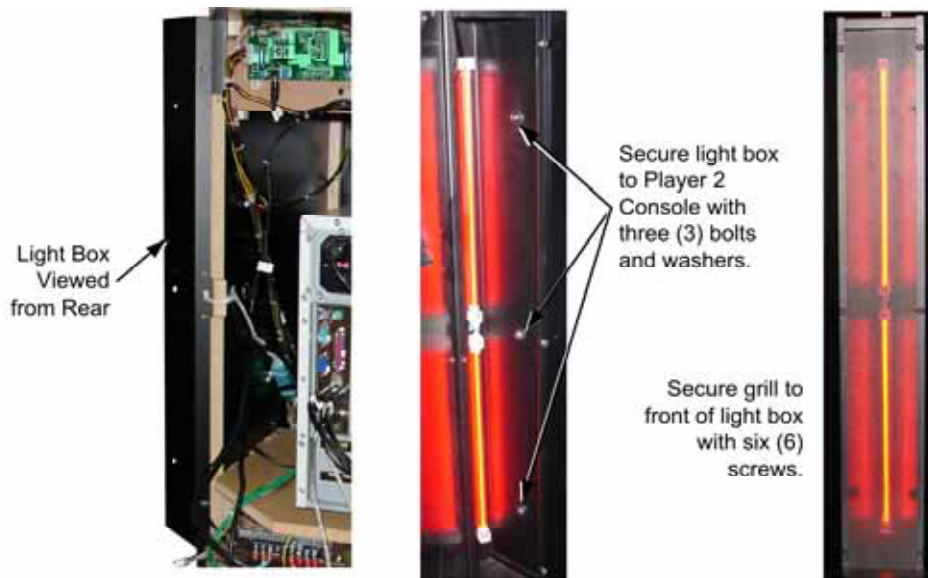

Figure 3. Securing the Console Light Box
2. Secure the Console Light Box, located between the consoles, to the Player 2 side using three (3) ¼-20 x 1-¼" bolts and washers, as shown in Figure 3.
3. Secure the grill on the front of the light box with six (6) 10/32 machine screws, as shown in Figure 3.